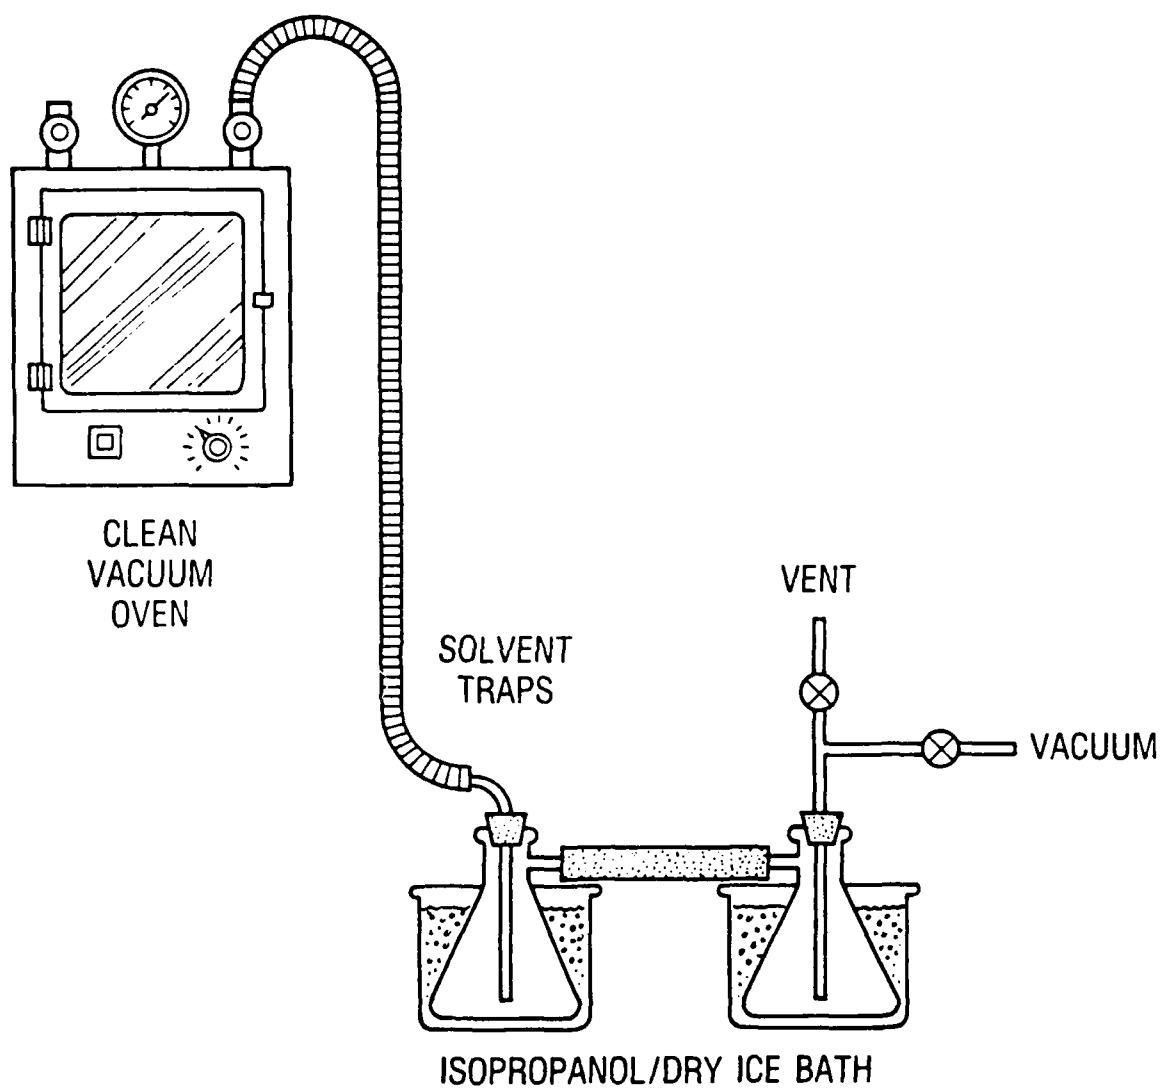

Fig. A-2. Vacuum System for Solvent Evaporation
4.4(A) Vacuum evaporation system, consisting of a vacuum oven, a two-stage vacuum pump, and vacuum gauge. The vacuum oven should be controllable to  $25 \pm 5^\circ\text{C}$ . The system, shown in Fig. A-2, is exhausted through a series of two low-temperature traps to collect the solvent vapors and prevent damage to the vacuum pump. The solvent traps are cooled using an isopropanol/dry ice bath. The oven shall not produce molecular and particulate contaminants and should not be used for other operations that could contaminate samples.